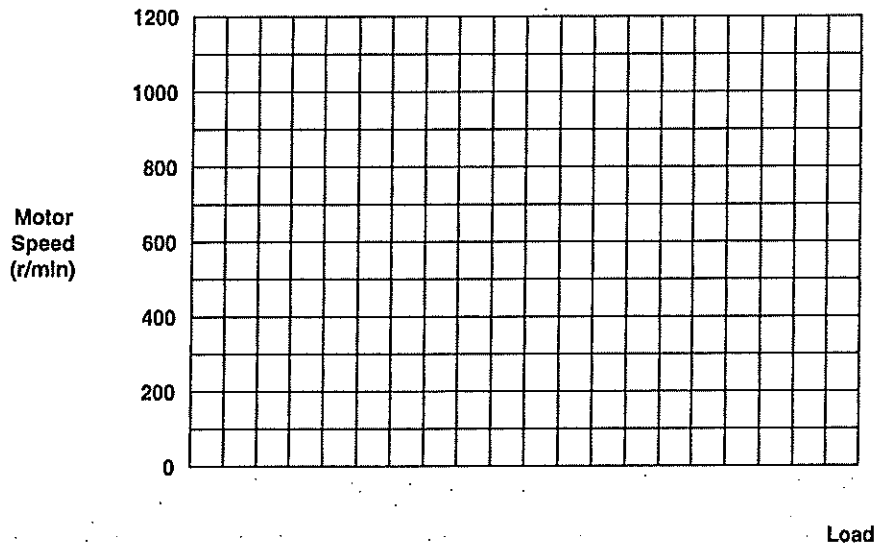

Figure 11-3.
- 14. Plot the graph of the *Motor Speed* as a function of *Load* in Figure 11-3.
- 12. Use your data to plot the graph of the *Motor Speed* as a function of *Load* without IR compensation in Figure 11-3.